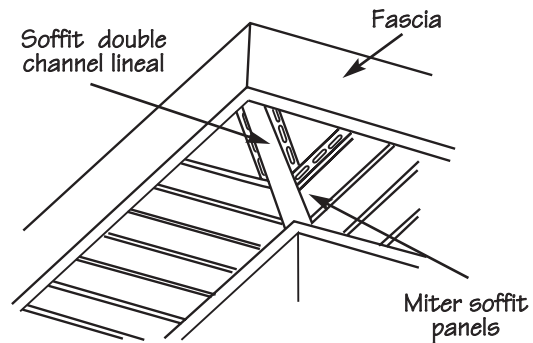

Figure 70.
4. To turn a corner, measure from the channel at the wall corner to the channel at the corner of the fascia board (Fig. 70). Subtract 1/4" for expansion. Cut and install soffit double channel lineal or back-to-back J-channel. If necessary, install nailing strips to provide backing for the lineal. Miter cut the corner soffit panels and install as described in Step 3.